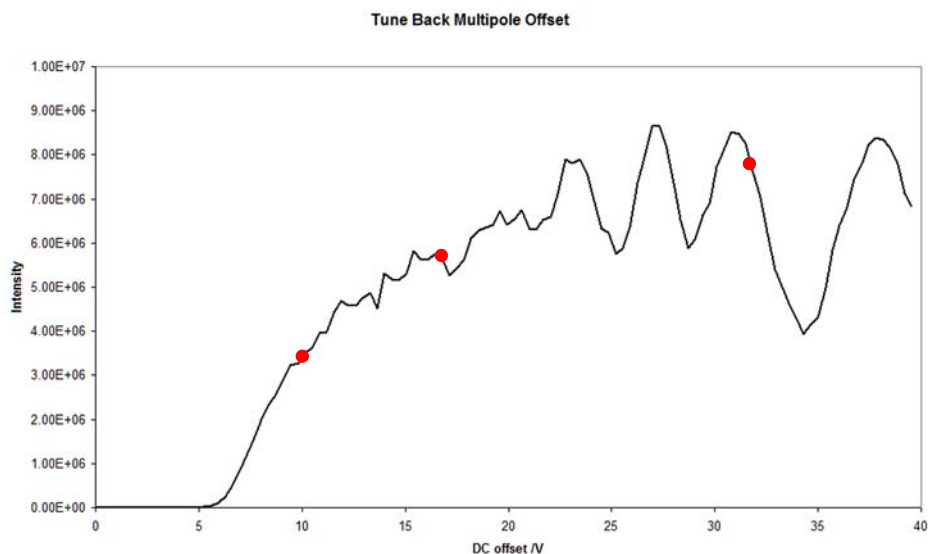

Figure 7-21. Dependence of the signal from the DC Offset
5. Search for a local maximum just before the oscillations on the signal start. (In the example shown in Figure 7-21, that would be at about 17 V).
In the example shown in Figure 7-21, nodding starts at above 20 V. In this region, the signal is fragile. Depending on the DC Offset (for comparison: 10 V, 17 V, and 32 V; red points) the calibration curves look differently.